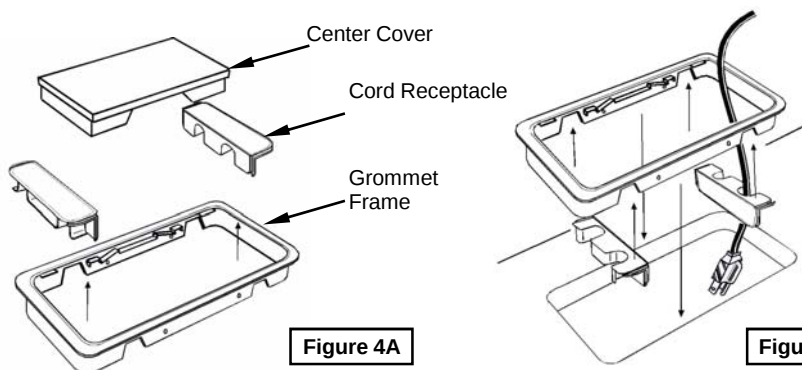

Figure 4A
- Remove the center cover and cord receptacles. **Figure 4A.**